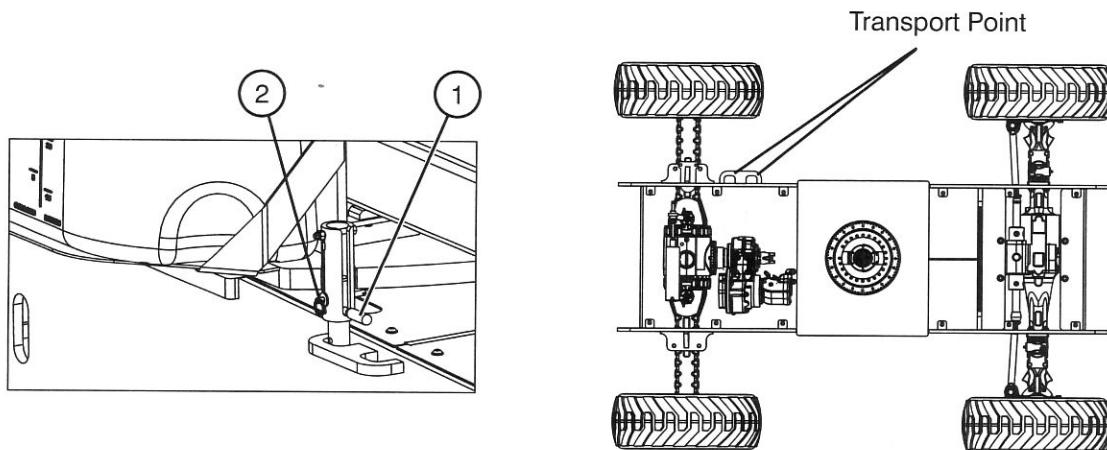

Figure 2-11. Turret Transportation Lock & Locking Points
1. Ensure that turret is positioned so that turret transportation lock tube (item 1 - Figure 2-11) is aligned into one of two turret locking points in the turret rotation lock plate.
2. Pull out turret lock retaining pin (item 2 - Figure 2-11). Lower turret lock into locked position and reinsert turret lock retaining pin.
1. Place boom in stowed position centered between drive wheels. Lock turret using turret transportation locking pin (refer to Section 2.12-2) into the transport point (refer to Figure 2-11).